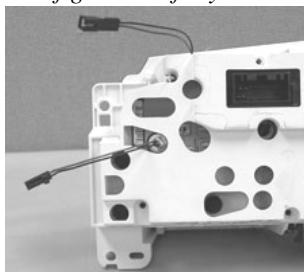
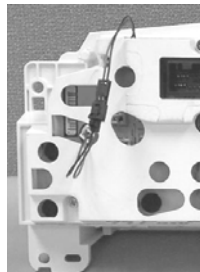

Figure 11
Figure 12
12. Place the original cluster white cover on the back of the circuit board while feeding the lamp connector through the cover lamp hole (See figure 11). Connect the power inverter connector and the lamp connector together (See figure 12).